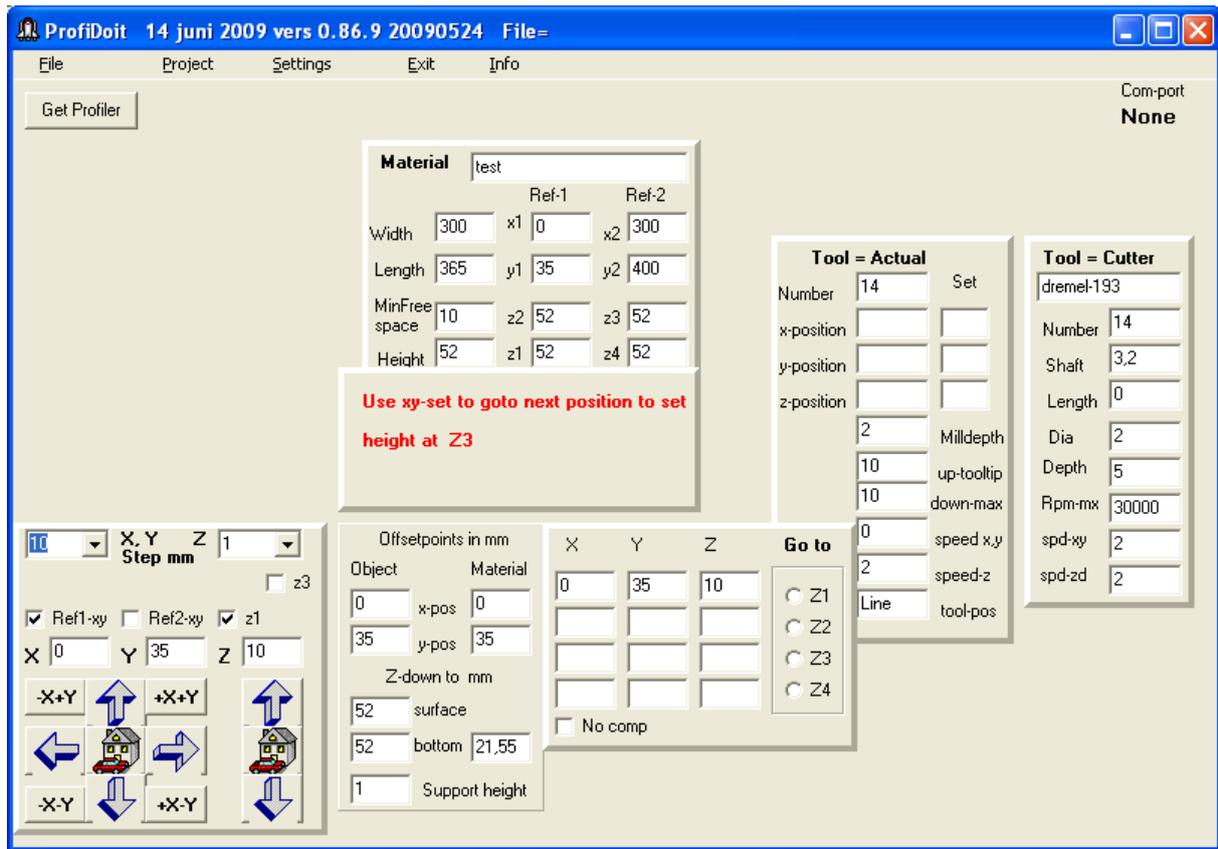

Fig. 3.1.1 Profiler control panel. (f1-0090614)
- 3. Fig. 3.1.1 Profiler control panel.
The Profiler control block (Fig. 3.1.1).